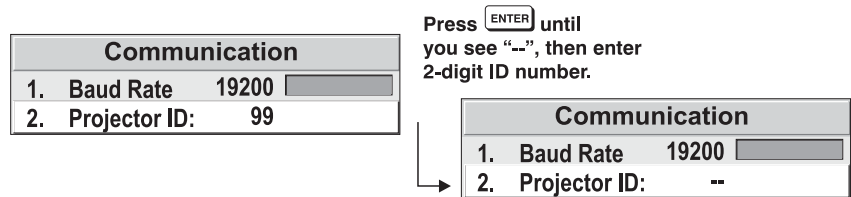

Figure 3.25. Assigning Projector ID
To assign an ID number using the option in the *Communications* menu, select the option **Projector ID**. Press **ENTER** twice until you see two dashed lines, “- -”. Using the numbered keys on the keypad, enter a unique 2-digit ID number for the current projector. Press **ENTER** to accept and save the entry and/or **EXIT** to exit the menu or cancel. See Figure 3.25. Press **STATUS** to check that the ID number for your projector was successfully changed. Continue this process for each projector if you’re working in a network.
4. Press **Enter** to accept the entry and/or **Exit** to exit the menu or cancel. See Figure 3.25, earlier in this section.